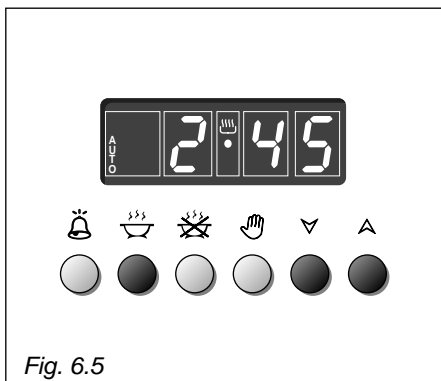

Fig. 6.5
1. Set the length of time you need to cook the food by pushing the  button and the  button to advance, or  to go back if you have passed the desired time (fig. 6.5). The **AUTO** and the  symbol will be on.